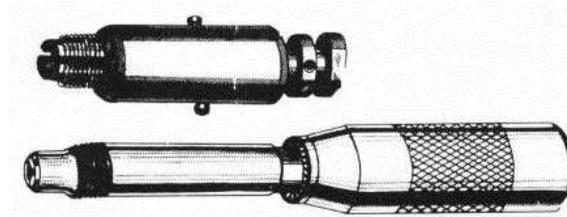

Figure 44
- (l) Use the Expanding and Staking Tool P/N 64593 (Figure 44) to stake the new installed 0.010 in. oversized Heli-Coil® insert securely in the spark plug hole as follows: